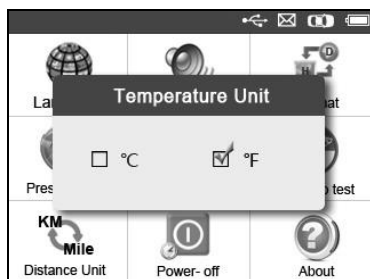

Figure 3.7
- 2) From **Temperature Unit** screen, use the **LEFT/RIGHT** scroll button to select the desired unit of temperature. (Figure 3.7)